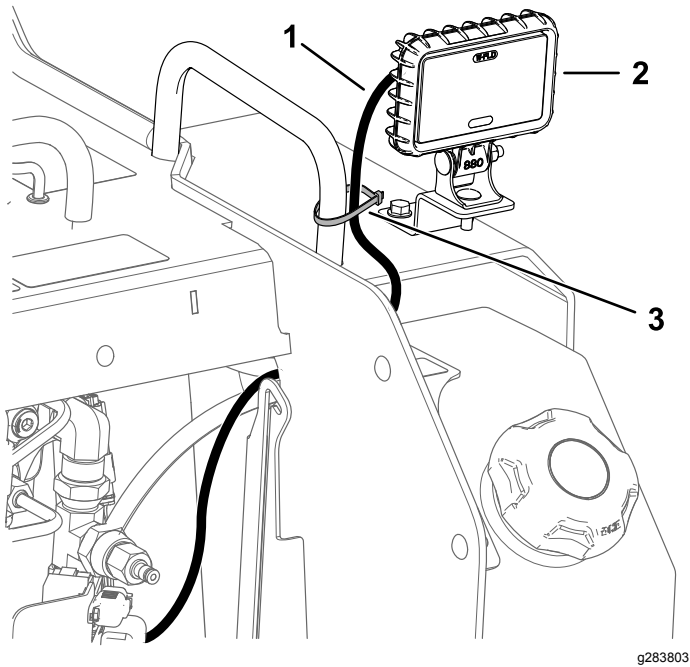

Figure 9
6. Route the right light connector out the right side of the machine, up to the light (Figure 9). Plug the connector to the light.
- 7. Secure the wire harness to the grab bar using a cable tie (Figure 9).